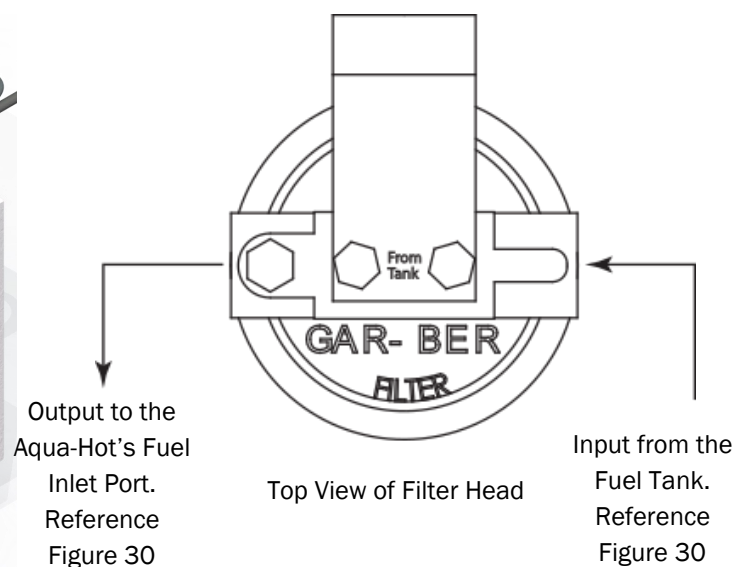

Figure 29
NOTE: Ensure that the fuel filter is installed with correct flow in mind as demonstrated by figure 29.
2. Install and tighten the fuel fittings onto the two ports of the fuel filter. Reference figure 29 for the correct connection configuration.
5. Cut the fuel line at the fuel filter mounting location and connect the fuel lines as illustrated in figure 29.